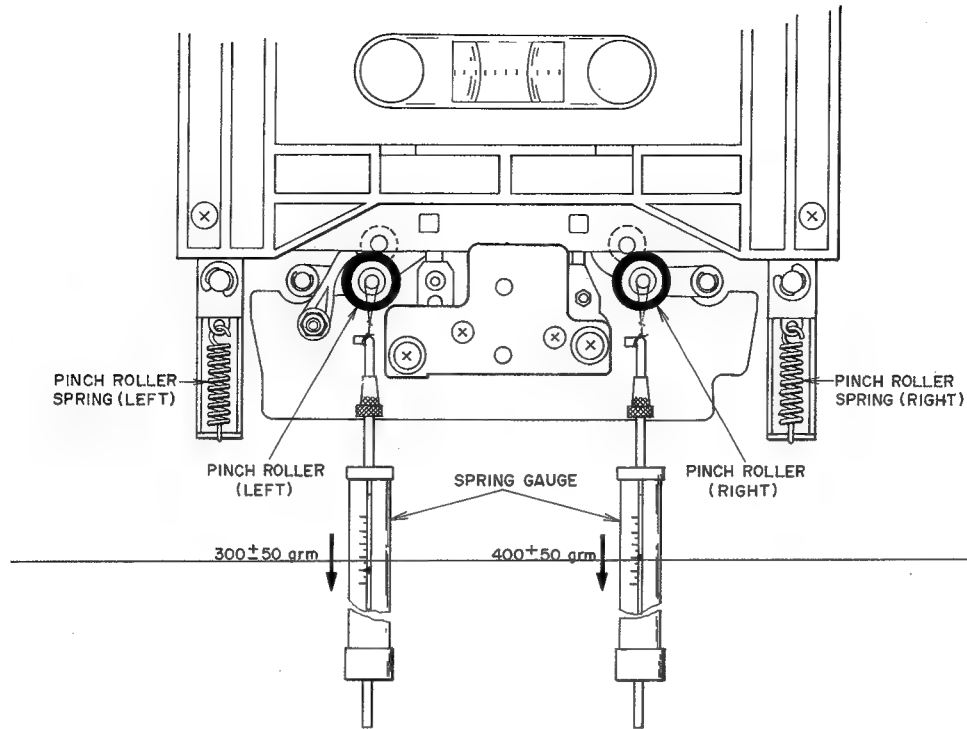

Fig. 12
5. PINCH ROLLER PRESSURE ADJUSTMENT (Refer to Fig. 12)
Load a cassette tape, set the recorder in the play mode, then pass a string around the pinch roller shaft and the spring gauge as shown in Fig. 12. Pull the spring gauge as indicated by the arrow mark in the figure until the pinch roller parts from the capstan. Then, gradually weaken the pulling force, and the spring gauge value when the pinch roller comes in contact with the capstan once again to start rotating. If the measurement value does not comply with the following values specified, replace the pinch roller spring.